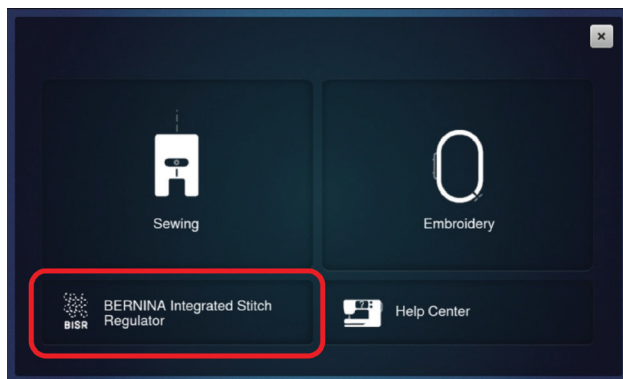

Fig. 22
5. Lower the needle and presser foot, then place the edge of the ruler up next to the foot (Fig. 22).